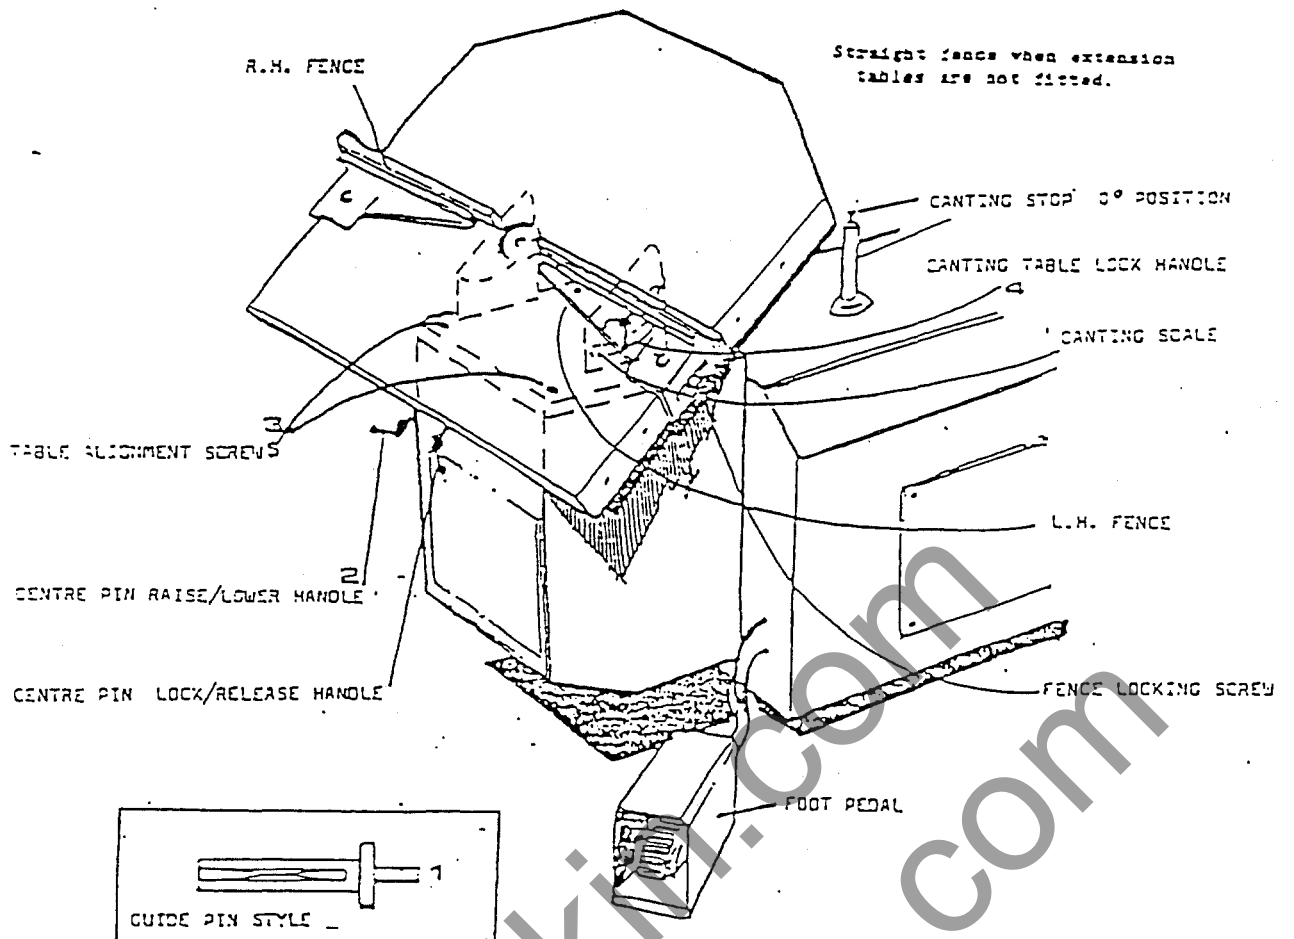

FIG. 11 LAYOUT OF CANTING TABLE MODEL UX2
#### 4.7 CANTING TABLE MODEL UX 2 (See Fig. 11)
2. Should alignment be incorrect loosen four screws (3) which secure canting unit to knee bracket and reset as necessary.
3. Fences can be adjusted to suit, either in front of pin as shown in Fig. 11 or behind pin when table is in 0° to-10° position.